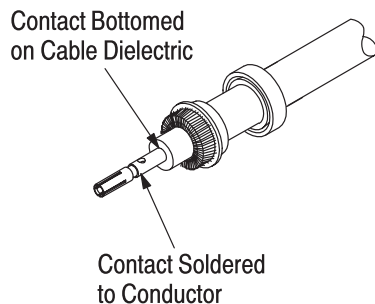

Figure 5
4. Solder contact to conductor (using standard soldering techniques), making sure the contact is bottomed on the cable dielectric. See Figure 5.